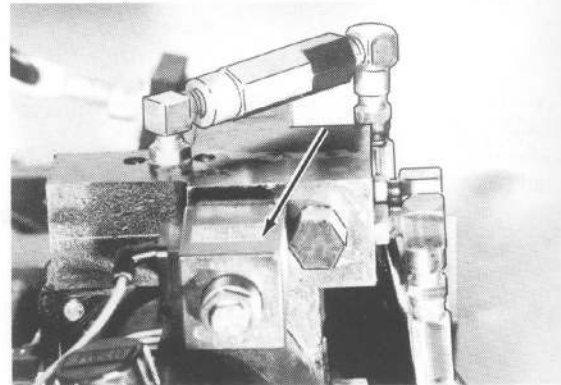

Figure 2-14
7. Install coil, spacer (chamfered end towards coil), and nut, torque nut to 5-10 lb-in. See Figure 2-14.